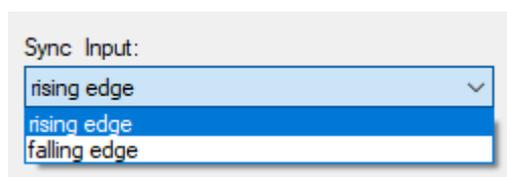

Figure 47: Pull-down menu: Sync Input
Sync Input:	Input signal for Sync signal (Figure 47, Page 57).
- select Sync Input (Figure 47, Page 57).